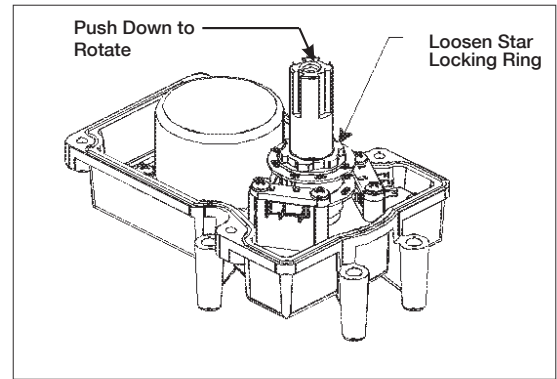
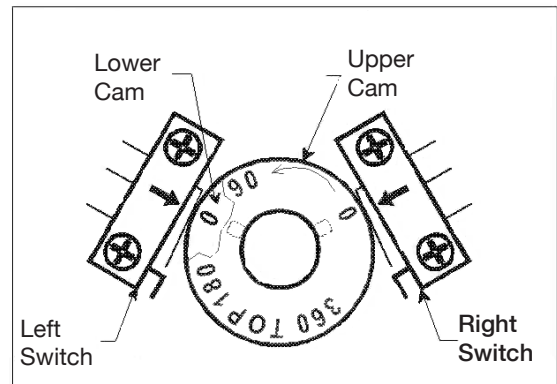

Figure 4. Cam Adjustment
Figure 5. Cams
2. Remove the four screws and actuator lid to locate the cam/motor compartment. See Figure 4 to observe the cam.
3. Push down and rotate the actuator shaft (see Figure 4) so the 0 degree mark lines up with the arrow on the switch housing and the bottom cam lines up with the arrow as shown in Figure 5.
4. Refer to the Cam Adjustment Table below to find the proper cam settings and then loosen the locking nut 1/4 turn counterclockwise and line up the specified marking on the cams with the arrows on the switch housings to reset the cams. See Figure 5.